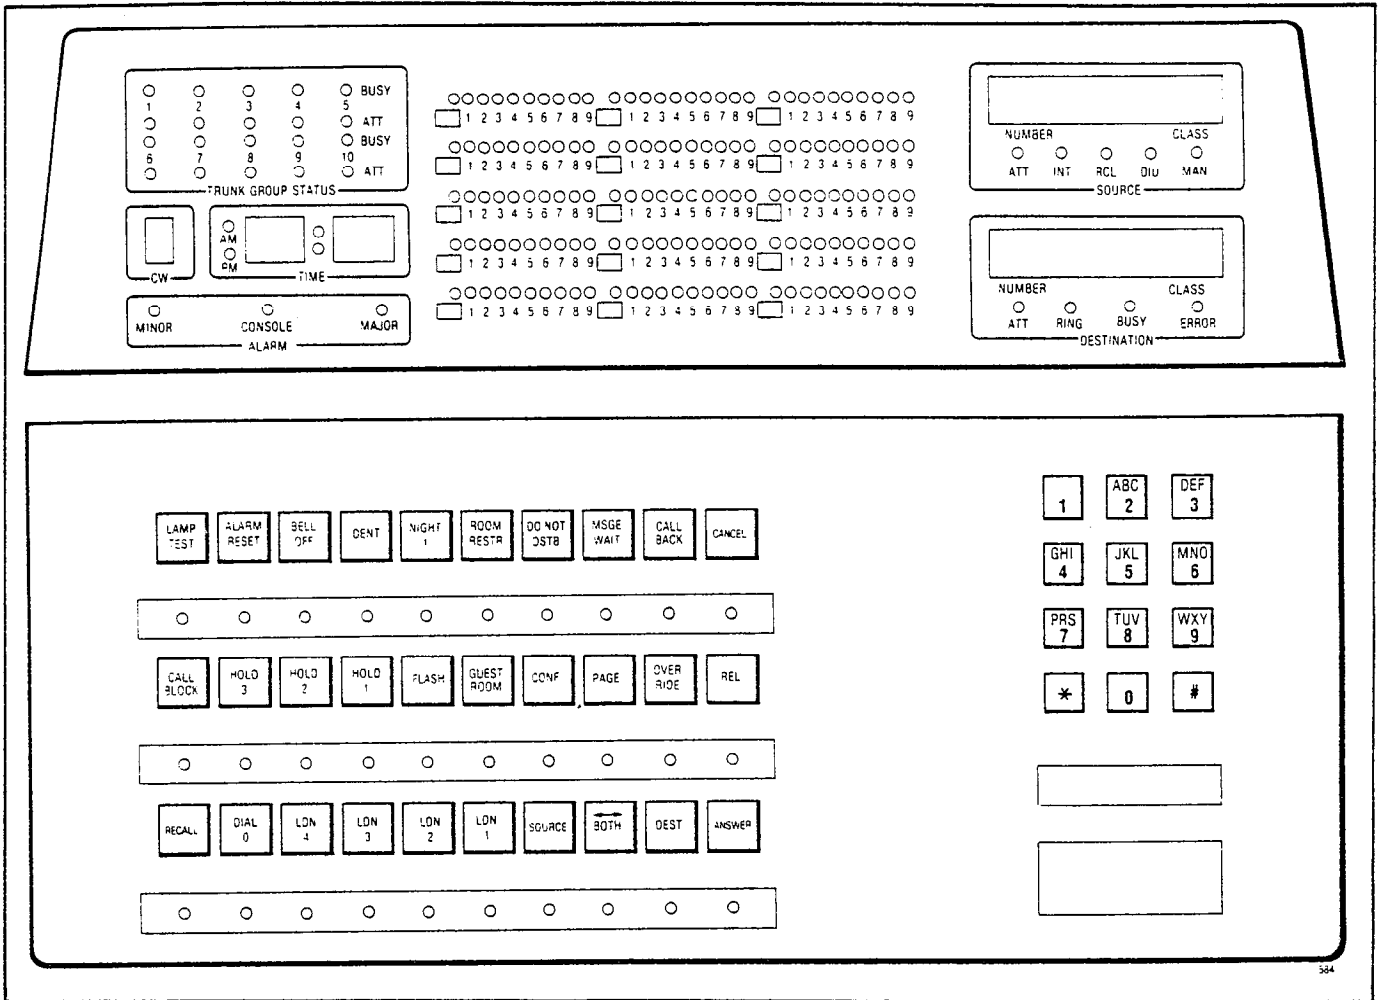

Fig. 4-1 Console Faceplate Layout
4.01 The attendant console faceplate layout is shown in Fig. 4-1. This layout differs from the standard layout described in Section MITL9105/9110-98-300, in that certain keys bear different designations because of the need to tailor program requirements to a hotel (or motel) environment. Some of these functions may be applicable to needs other than a hotel environment. It is emphasized that the physical and electrical configuration has not changed.